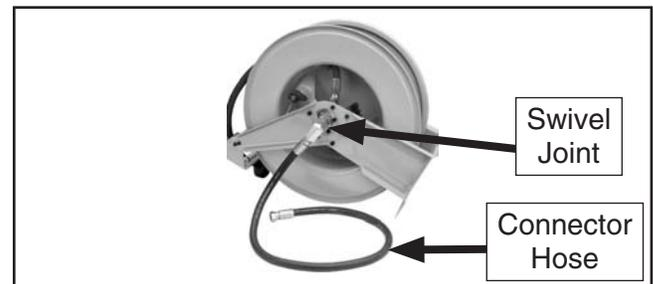

Figure 2. Connector hose threaded into swivel joint.
Apply Teflon pipe tape or thread sealant to the male end of the connector hose, then thread it into the swivel joint (see **Figure 2**).
4. Apply Teflon pipe tape or thread sealant to the incoming air fitting and attach it to the connector hose (see **Figure 2**).